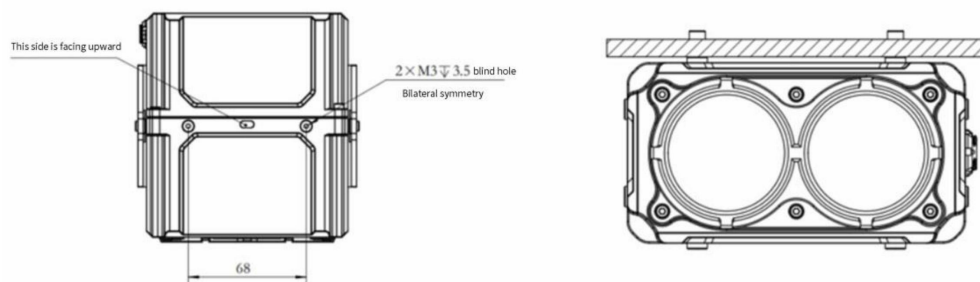

Figure 9 Fixing Mode of Product Shell
Step 2: Use M3 screws to fix the threaded holes on the product. The installation diagram is shown in Figure 9.